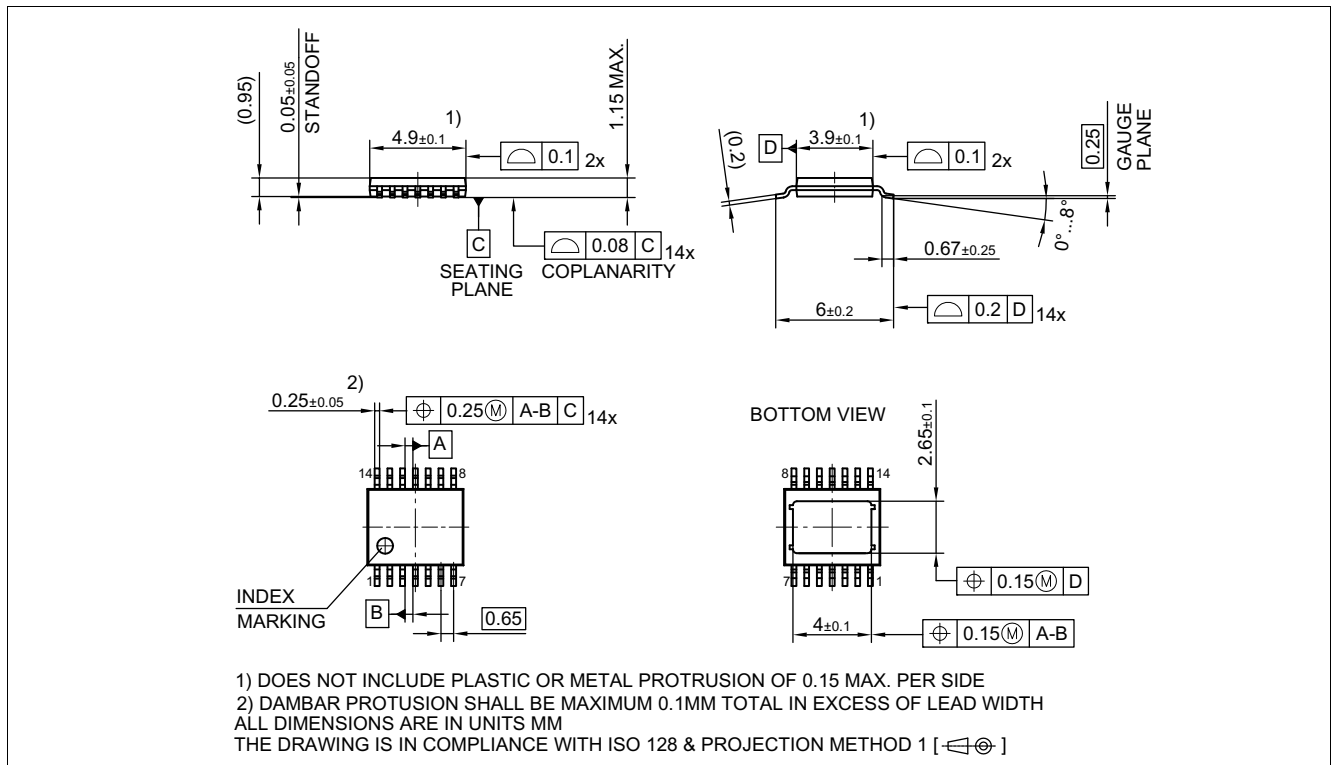
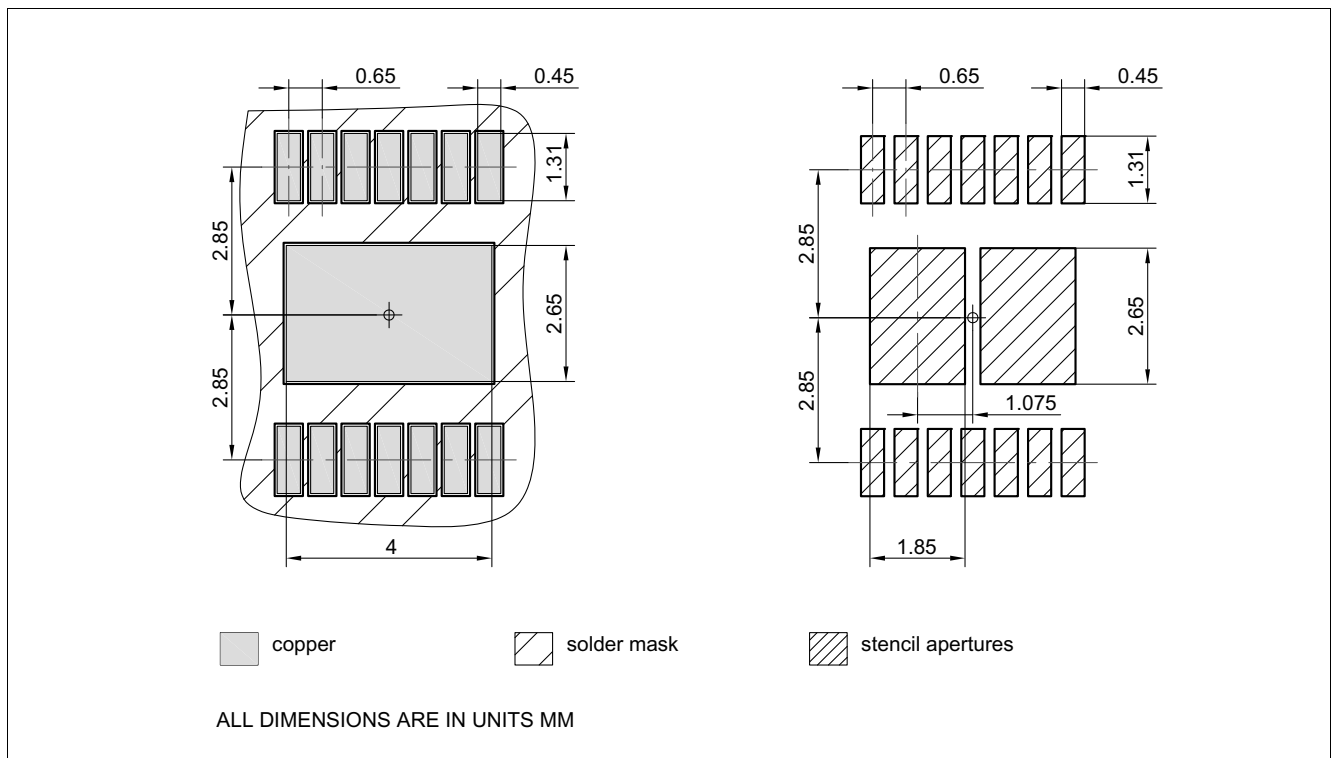

Figure 44 PG-TSDSO-14 (Thin (Slim) Dual Small Outline 14 pins) Package Outline
Figure 45 PG-TSDSO-14 (Thin (Slim) Dual Small Outline 14 pins) Package pads and stencil
1.03, 2018-10-18	<p>Chapter 9.3.1 updated (typo)</p> <p>Page 1: updated (Package PG-TSDSO-14-22 → Package PG-TSDSO-14)</p> <p>Figure 29 updated</p> <p>Figure 44 updated (PG-TSDSO-14-22 (Thin (Slim) Dual Small Outline 14 pins) Package Outline → PG-TSDSO-14 (Thin (Slim) Dual Small Outline 14 pins) Package Outline)</p> <p>Figure 45 updated (PG-TSDSO-14-22 (Thin (Slim) Dual Small Outline 14 pins) Package pads and stencil → PG-TSDSO-14 (Thin (Slim) Dual Small Outline 14 pins) Package pads and stencil)</p> <p>Table 1 updated ((Symbol: $I_{VS(SLEEP)}$ → $I_{VS(SLEEP)_{85}}$), (Parameter: Minimum Overvoltage protection ($T_J = 25\text{ °C}$) → Minimum Overvoltage protection ($T_J \geq 25\text{ °C}$))</p> <p>P_9.6.0.6 updated (Note or Test Condition: removed unnecessary line-break)</p> <p>Chapter 7.4.1 updated chapter title (PROFET → PROFET™)</p> <p>Table 12 updated table title (PROFET → PROFET™)</p> <p>Chapter 8.6.1 updated chapter title (PROFET → PROFET™)</p> <p>Table 16 updated table title (PROFET → PROFET™)</p> <p>Chapter 9.5.1 updated chapter title (PROFET → PROFET™)</p> <p>Table 21 updated table title (PROFET → PROFET™)</p> <p>P_4.1.0.21, P_4.1.0.22, P_4.1.0.23, P_4.1.0.24 updated (footnote ESD standards)</p> <p>Table 1 updated ($R_{DS(ON)}$ → $R_{DS(ON)_{150}}$), ($V_{DS(CLAMP)}$ → $V_{DS(CLAMP)_{25}}$)</p> <p>Chapter 8.5.2 updated phrasing</p> <p>P_7.5.4.14 Table subheading "Switching Energy" added</p> <p>P_7.5.4.15 Table subheading "Switching Energy" added</p> <p>Chapter 6.4 added conditions</p> <p>Chapter 7.5 added conditions</p> <p>P_7.5.4.14 updated (Test condition: add "See Figure")</p> <p>P_7.5.4.15 updated (Test condition: add "See Figure")</p> <p>Chapter 8.7 added conditions</p> <p>Chapter 9.6 added conditions</p> <p>P_9.7.4.27 updated (Test condition: add "See Figure")</p> <p>P_9.7.4.29 updated (Test condition: add "See Figure")</p> <p>Chapter 7.3.1 typo corrected (link to Figure 19 added)</p>